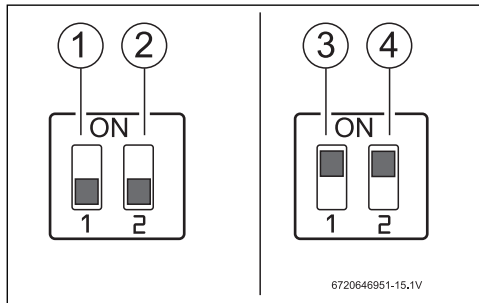

Fig. 12 Display DIP Switch
- Set the small dip-switches on the display printed circuit board in fig. 12 to display flow in the units desired. The display will show these measurements as shown in table 8. Once the switch has been changed to display flow rate, place the unit cover back on and turn on the electrical breakers.
- Remove front cover by undoing the retaining screws on the front. Remove the temperature knob by pulling up with slight force. Place knob and white bushing aside, and take the cover off the heater. Then reset the circuit board switches to display temperature, as shown in fig. 12 below.